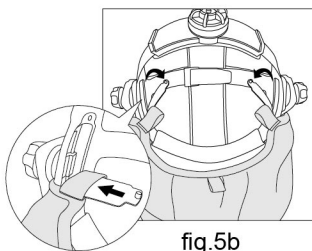

fig.5b
Step 2 : Unfasten buckle inside headgear, let the crochet ribbon get through the buckle (See fig.5b).